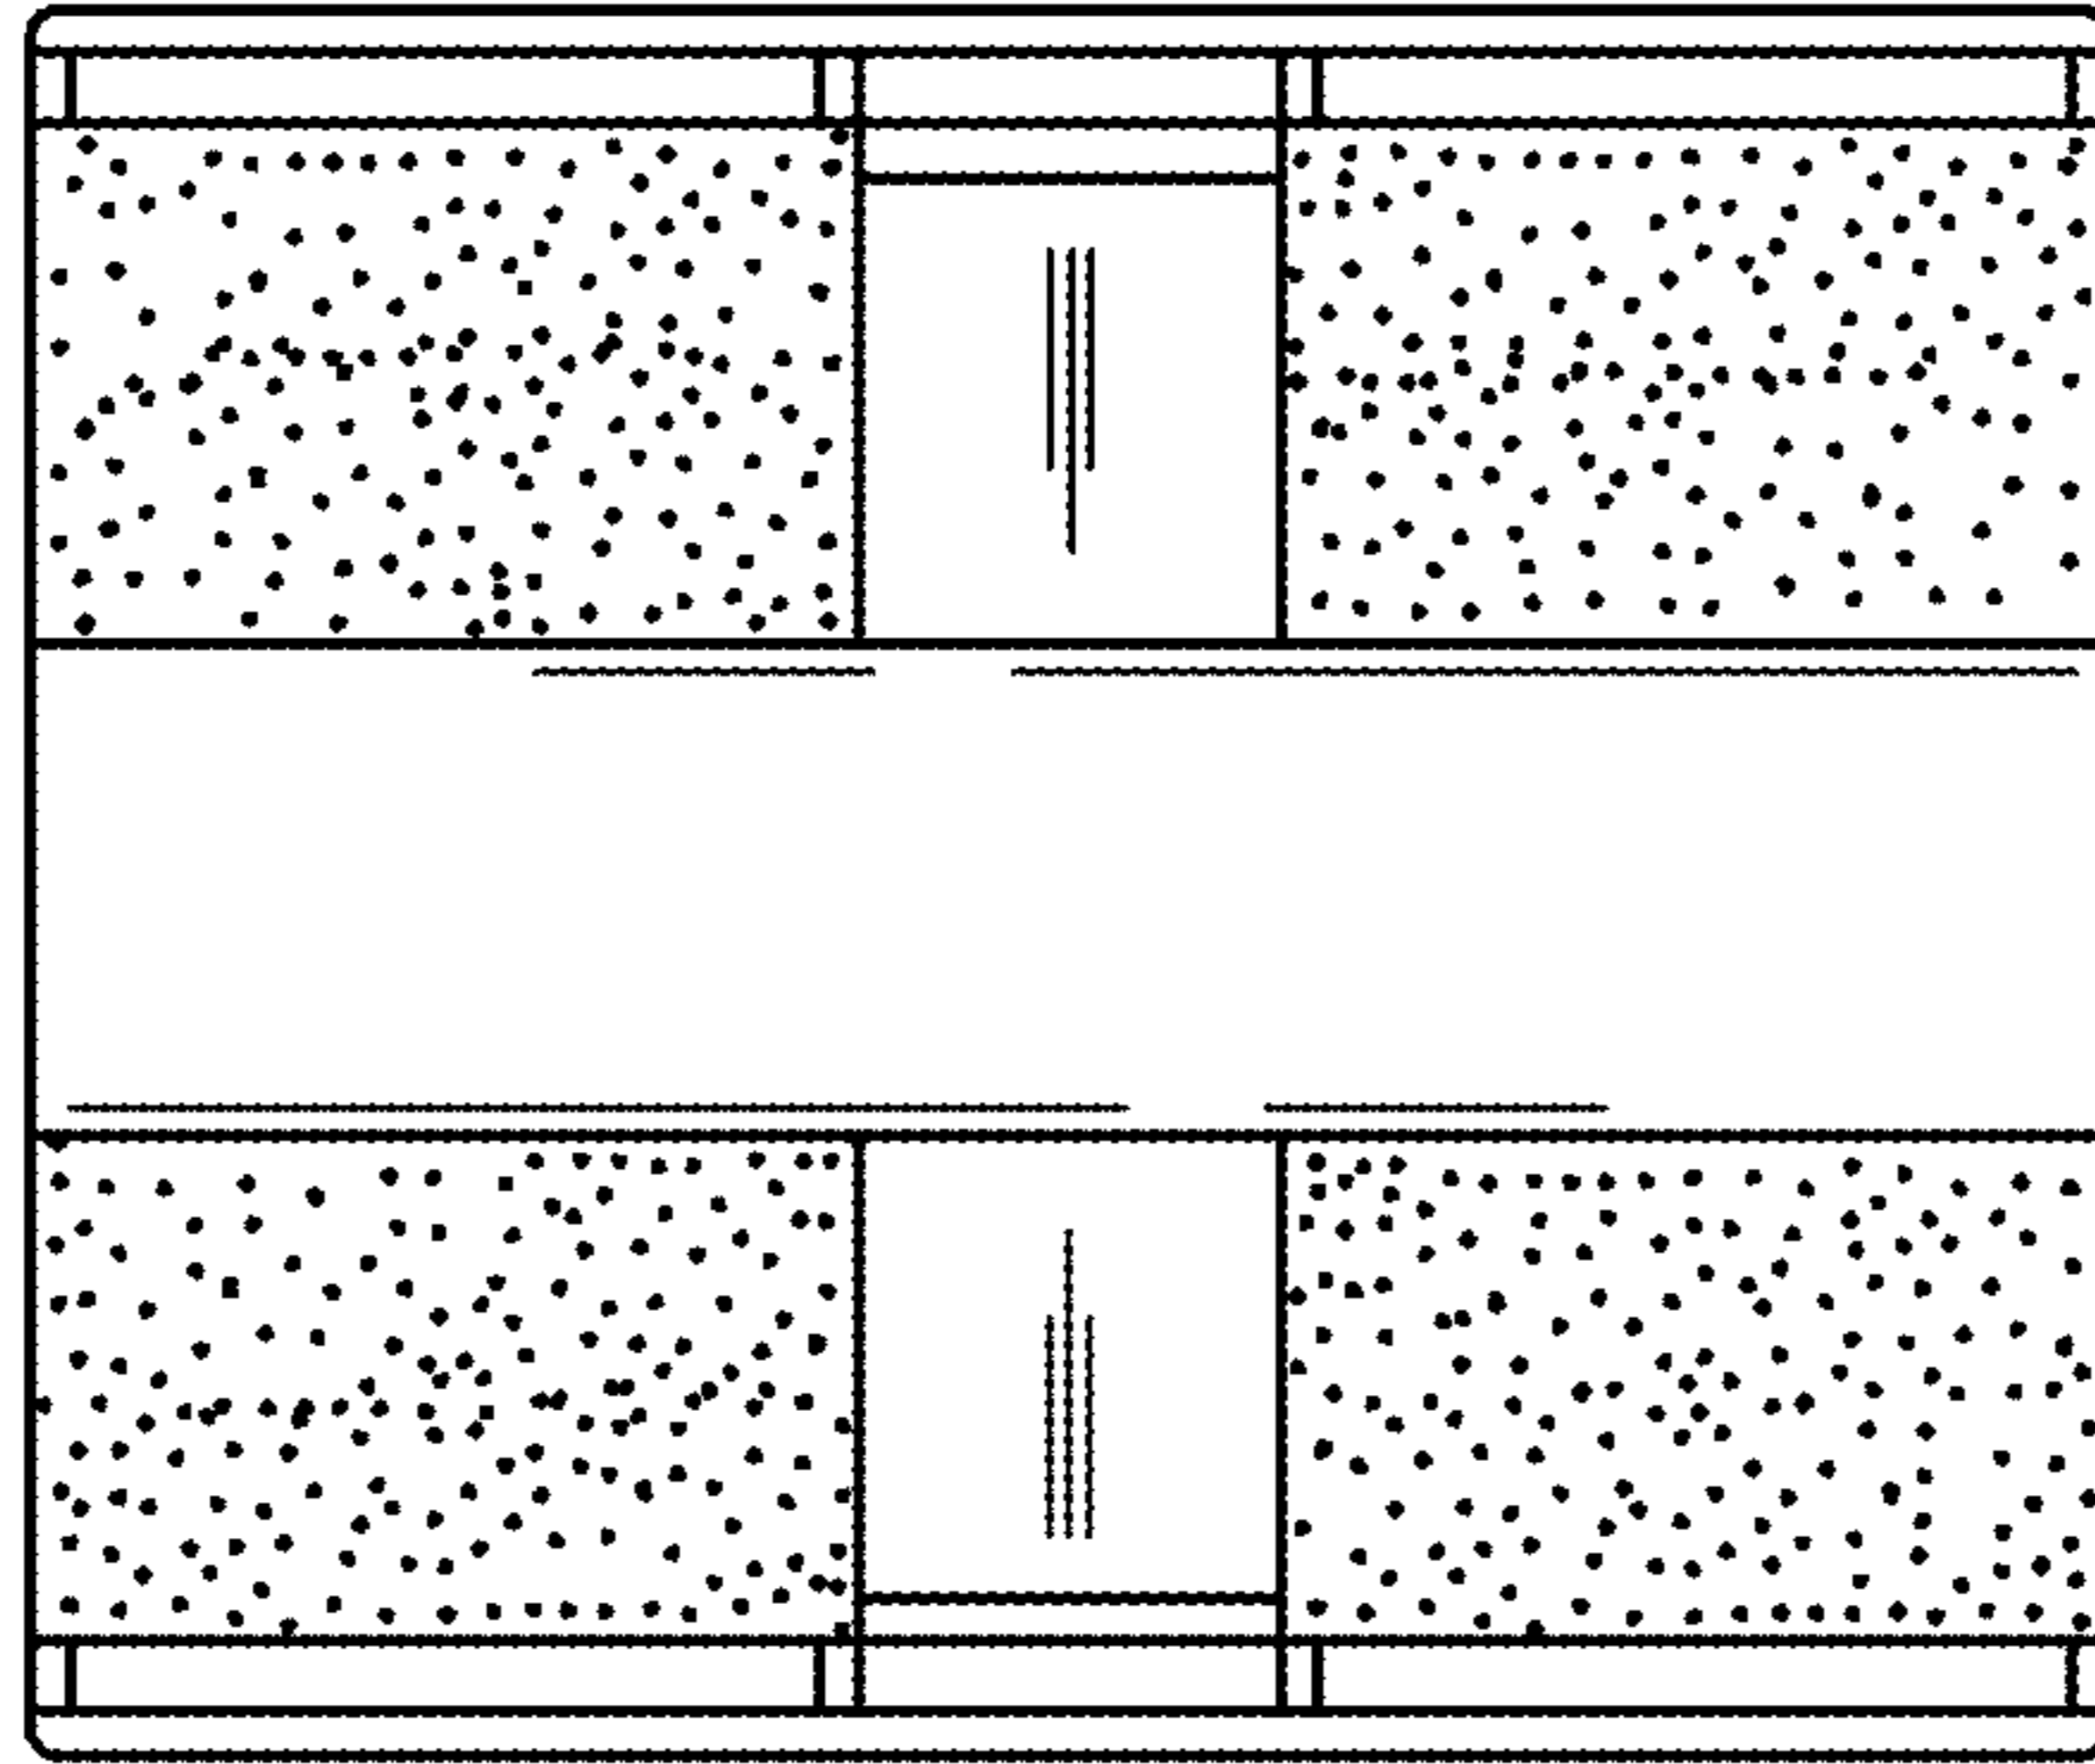

FIG. 5
- FIG. 5 is a plan view of the pipe clamp.